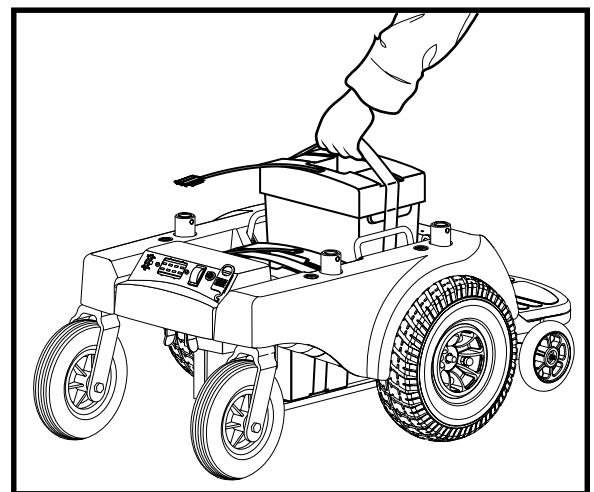

Figure 12. Removing Battery Boxes
2. Lift and remove each battery box. See figure 12.